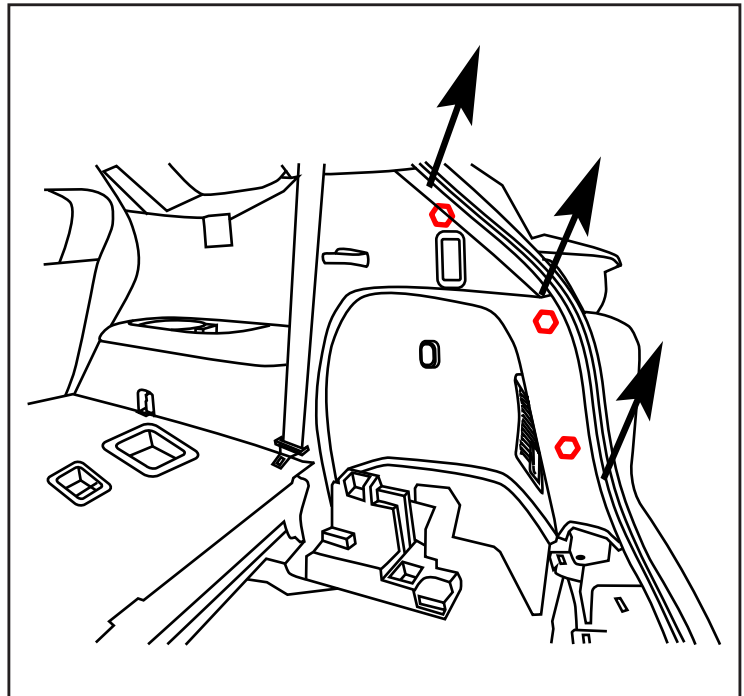

Fig. 15
15. Gently disengage the Side Sill panel clips, by pulling towards the driver side. DO NOT disengage the entire Side Sill panel (Fig. 15).